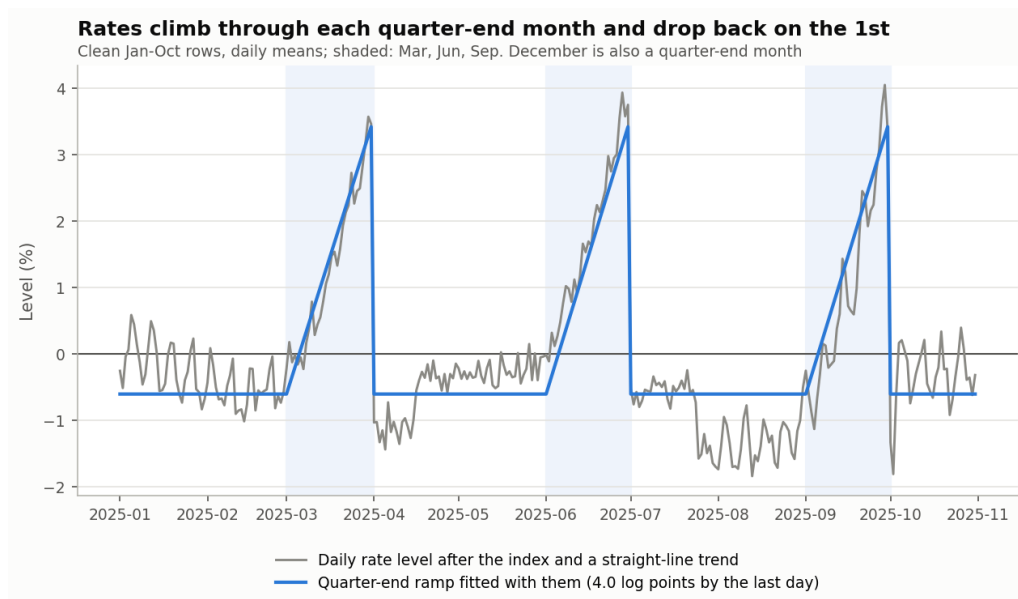

Figure 3. Daily price level after the market index and trend: a rise through each quarter-end month.
- Beyond the index, rates drift up by about 0.6% a month, and in March, June and September they climb about 4% through the month and fall back on the 1st (figure 3). December is also a quarter-end month.